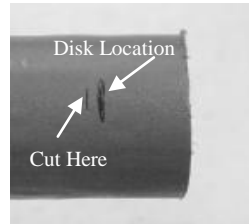

Figure 1
- 1) **Locate the 1st disc by inserting small ruler or wire.** Mark location on jacket surface. **Cut cable .13" behind disc using hacksaw (Figure 1).** Ensure that cable is straight for at least 10" from the end. (Tools required: Small Ruler or Wire and Hacksaw)